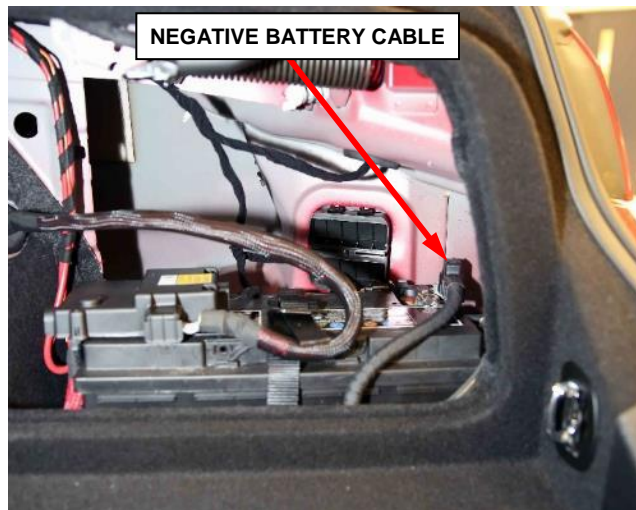

Figure 22 – Negative Battery Cable
20. Press the release button in order to disconnect the negative battery cable from the post. If equipped with an Intelligent Battery Sensor (IBS), disconnect the IBS connector. (Figure 22).